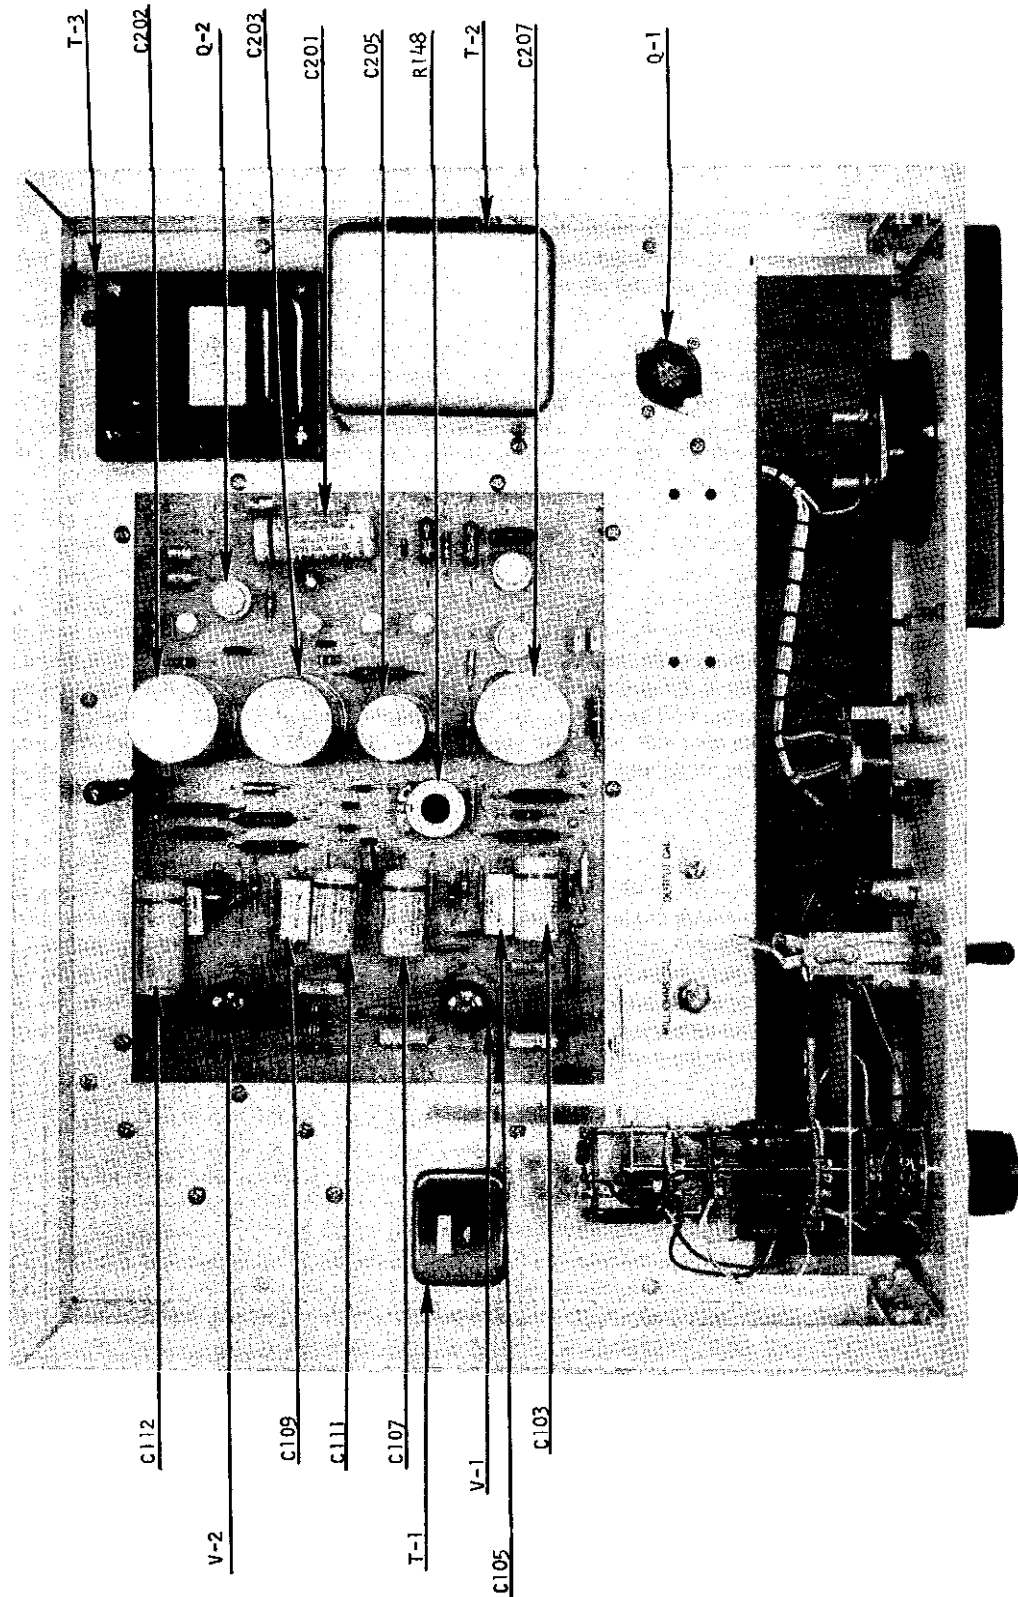

FIGURE 14. Model 503 Internal Components Locations (Top Removed).
2-16. OUTPUT. Connect to the output terminals, observing that pin No. 2 is at ground. The 503 is designed to drive a 100 millivolt recorder. The CALIBRATE control on the front panel calibrates the output as well as the meter. An internal control R125 OUTPUT CAL is adjusted at the factory to insure tracking between the meter and the output voltage. (See Figure 14)
2. MILLIOHM RANGES: To calibrate the milliohm ranges, an appropriate low value standard resistor is required. Leeds & Northrup Type 4221-B, 100 milliohms; Type 4222-B - 10 milliohms; and Type 4223-B, 1 milliohm are all suitable. Using one of these resistors or their equivalent, adjust the "MILLIOHM CAL" (Figure 14) for the proper meter reading.